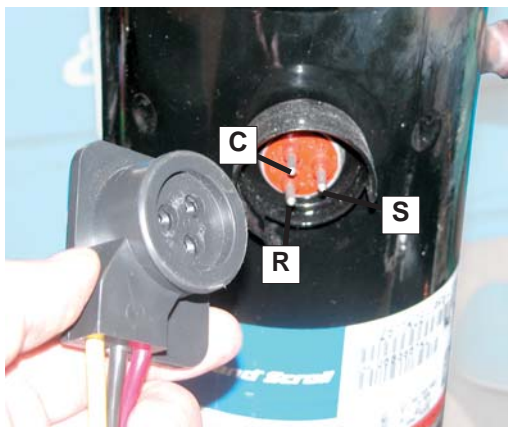

Figure 5-3 Compressor Connection
- Pull the compressor connector plug off of the compressor. The compressor has three terminals; C (common), R (run), and S (start). (Refer to Figure 5-3)
- G. Connect the electrical plug to the compressor. The plug is keyed and will only install one way. (Refer to Figure 5-3)